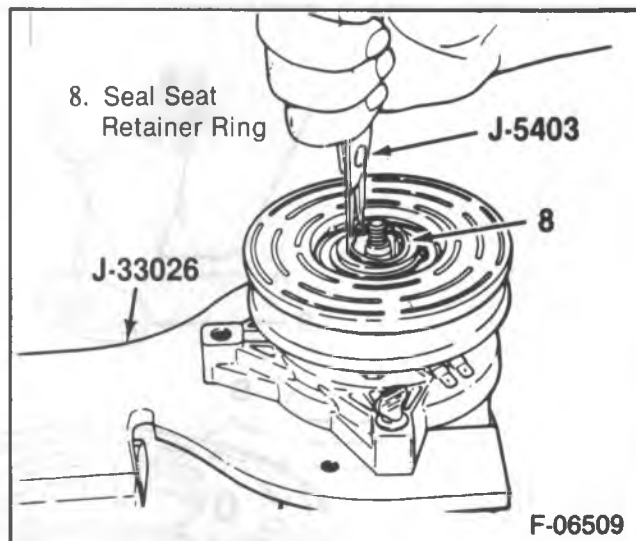
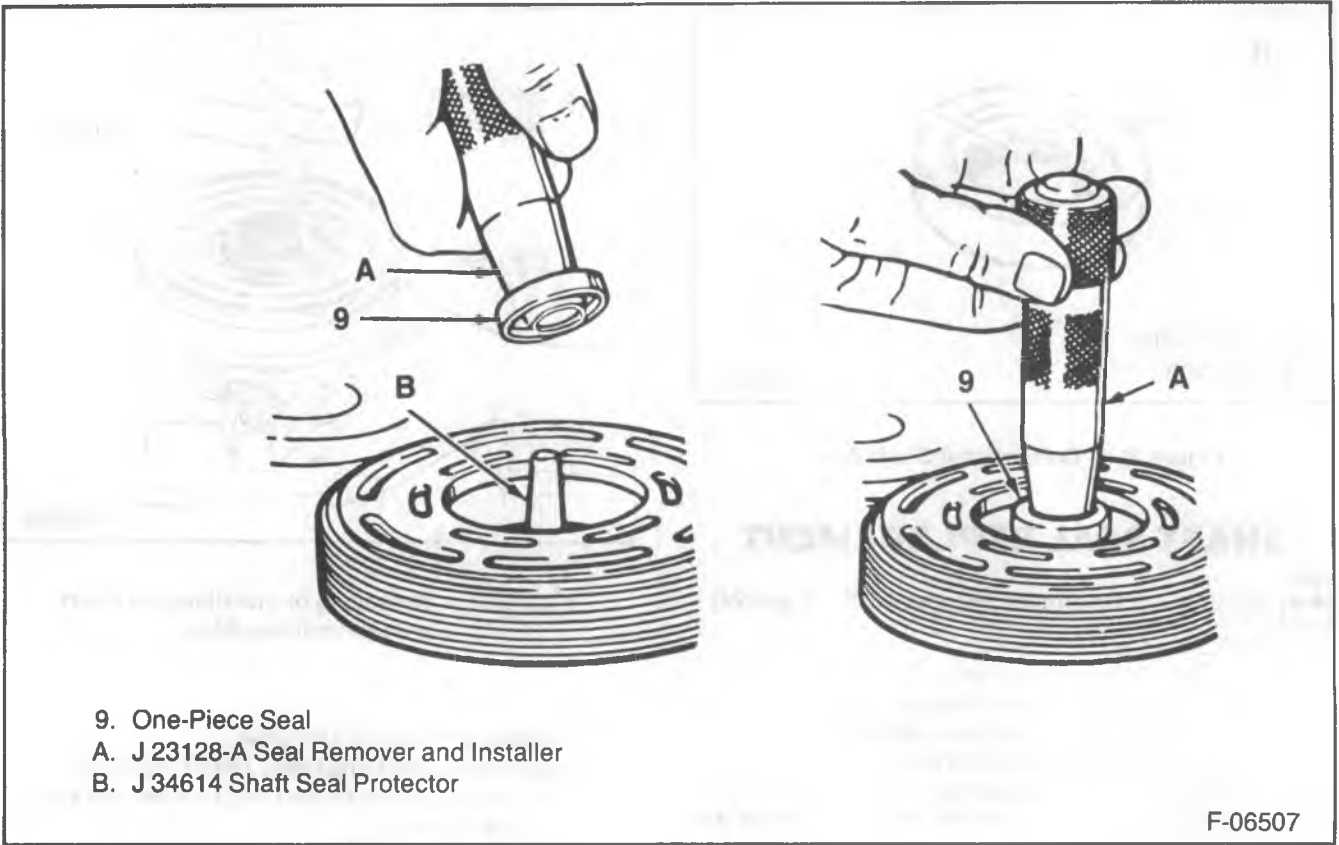

Figure 22 — Removing or Installing the Shaft Lip Seal Retaining Ring
Figure 23 — Removing or Installing the Shaft Tip Seal
1. Clutch plate and hub assembly (2).
- Install J 34614 over the threaded end of the shaft (20).
2. Shaft seal retainer ring (8) using J 5403 (figure 22).
- Clean the compressor neck area around the shaft (20), the exposed part of the shaft seal (9) and the O-ring seal groove.
3. Shaft lip seal (9) using J 23128-A (figure 23).
2. Shaft lip seal using J 23128-A (figure 23).
3. Shaft seal retainer ring using J 5403 (figure 22).